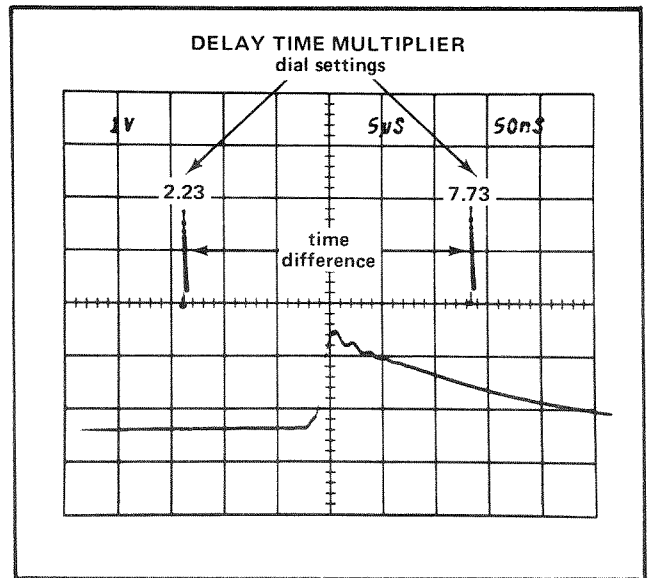

Fig. 2-12. Measuring time difference using delayed sweep.
2. Set the VOLTS/DIV selector to produce a display about three divisions in amplitude (see Fig. 2-12).
5. Set the 7B70 (B) TIME/DIV to a setting 1/100 of the A TIME/DIV sweep rate. This produces an intensified portion about 0.1 division in length.
Example: Assume the first dial setting is 2.23 and the second dial setting is 7.73 with the TIME/DIV set to $5 \mu s$ (see Fig. 2-12).